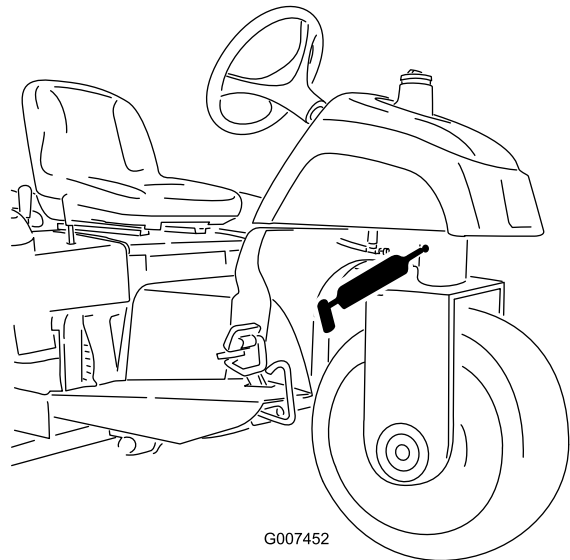

Figure 27
- Steering pivot (Figure 27)
Note: The flush fitting on the steering pivot (Figure 27) requires a grease gun nozzle adapter. Order Toro Part No. 107-1998 from your Authorized Toro Distributor.